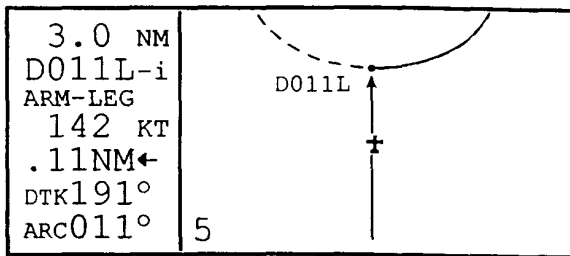

Figure 3D-70. DME ARC
(3) The KLN 90B recognizes if this point is associated with a DME arc. Once the arc waypoint is chosen, the KLN 90B determines on what radial of the reference VOR is presently located. A waypoint is created that is located at the intersection of the present radial and the DME arc. This waypoint is the first waypoint in the list of waypoints presented on the APT 8 page before loading the approach into the flight plan. This waypoint is named in the same convention as above.
(4) With the cursor over LOAD IN FPL, press the **ENT** button. The approach will be loaded into the active flight plan.
(5) After the approach is loaded into the flight plan, the KLN 90B may give the message, REDUNDANT WPTS IN FPL – EDIT EN ROUTE WPTS AS NECESSARY.
(6) Examine the flight plan and, if practical, observe the Super NAV 5 page to make sure that the sequence of waypoints does not have any unnecessary legs in it.
(7) The KLN 90B will now provide guidance to the arc intercept point. The Super NAV 5 page displays the entire arc on the screen. Refer to Figure 3D-70. The portion between the beginning of the arc and the arc intercept is drawn with a dashed line. The part that is between the arc intercept point and the end of the arc is drawn with the normal solid line.